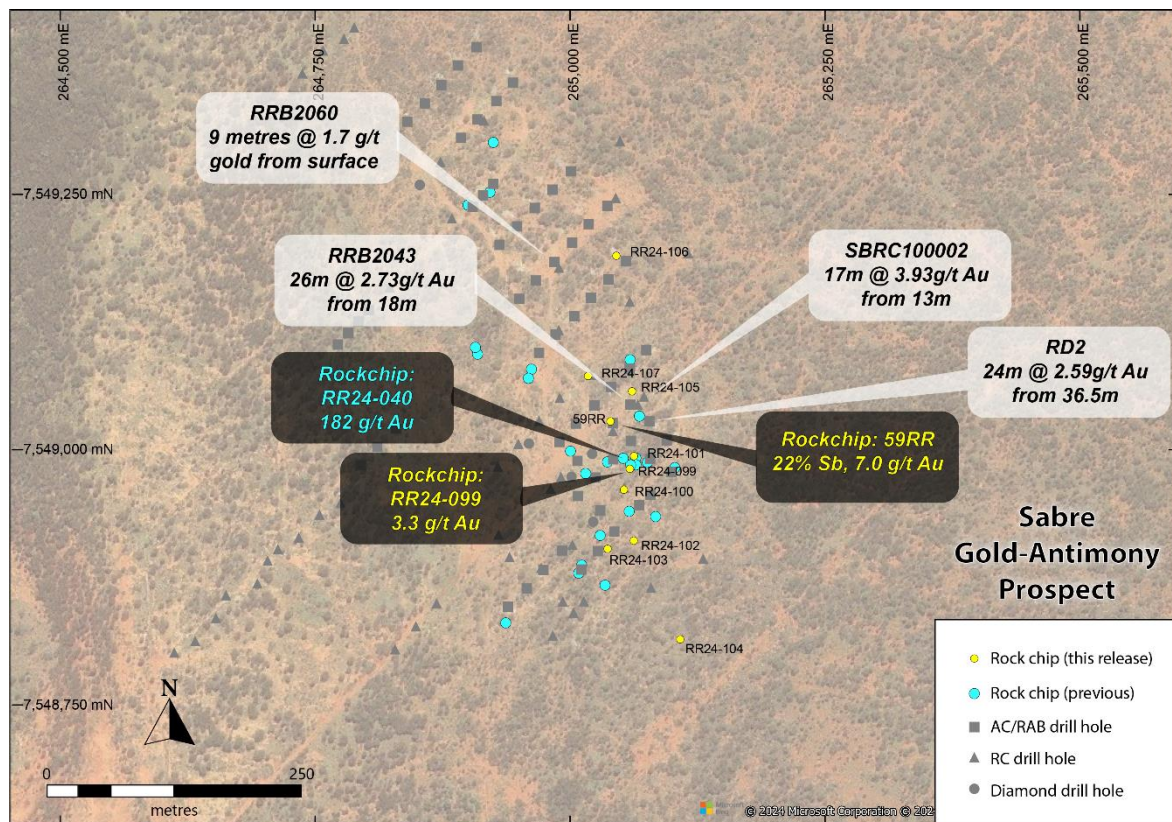

Figure 5. Significant rock chips and drill hole results at the Sabre Gold-Antimony Prospect.
The initial RAB drilling and surface sampling, by Poseidon Gold Ltd and Normandy Mining Ltd, defined gold mineralisation over 500m of strike at the Sabre Prospect with strong associations between samples >1g/t Au and elevated antimony. This also coincides with distinct arsenic zonation relating to elevated incidences of >1% lead. In 2021 Prodigy Gold NL completed a seven-hole reverse circulation (RC) drilling campaign (1,081m) at the Sabre prospect with the intention of defining the extents of high-grade gold mineralisation along strike of previous holes (Figure 5).